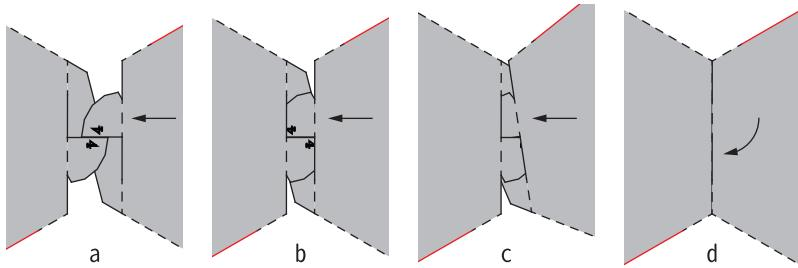

Fig.3 受け差し両手フラップの組み合わせかた
5. 両手フラップ同士の接合は少しむずかしいかもしれません、Fig.3 のようにしてください。
5. When you assemble a slot and tab pair (they are half slot and half tab), you will need to take a little more care because they are a little tricky at first, but assemble the pair as pictured on Fig 3.